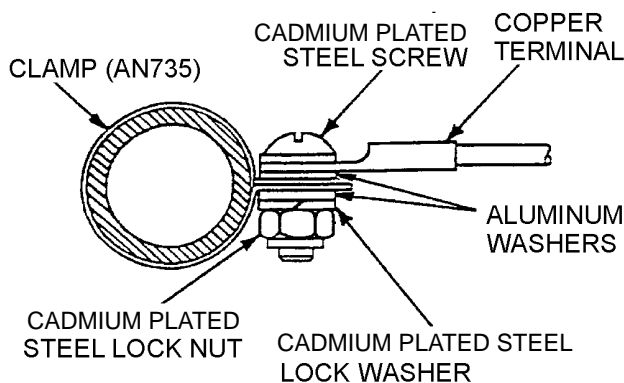

Figure 8. Bonding Conduit to Structure
51. **BONDING CONDUIT TO STRUCTURE.** Bond aluminum alloy or corrosion resisting steel conduit to structure as shown in Figure 8. If installation conditions require, AN742 clamp (uncushioned) may be used instead of AN735 using the same hardware.